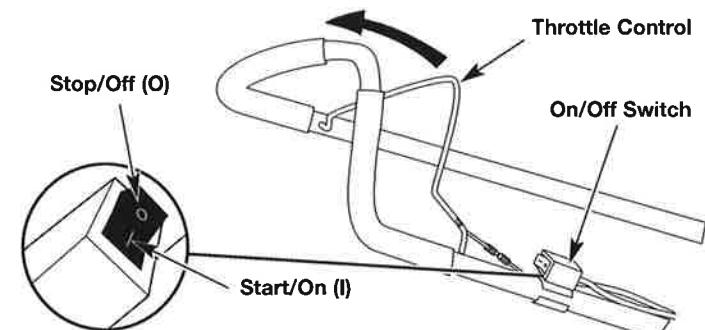

Fig. 4
- NOTE:** There is no need to turn the unit on. The On/Off switch is in the ON (I) position at all times (Fig. 4).
6. **DO NOT** squeeze the throttle control (Fig. 4). Pull the starter rope with a controlled and steady motion until the unit starts.